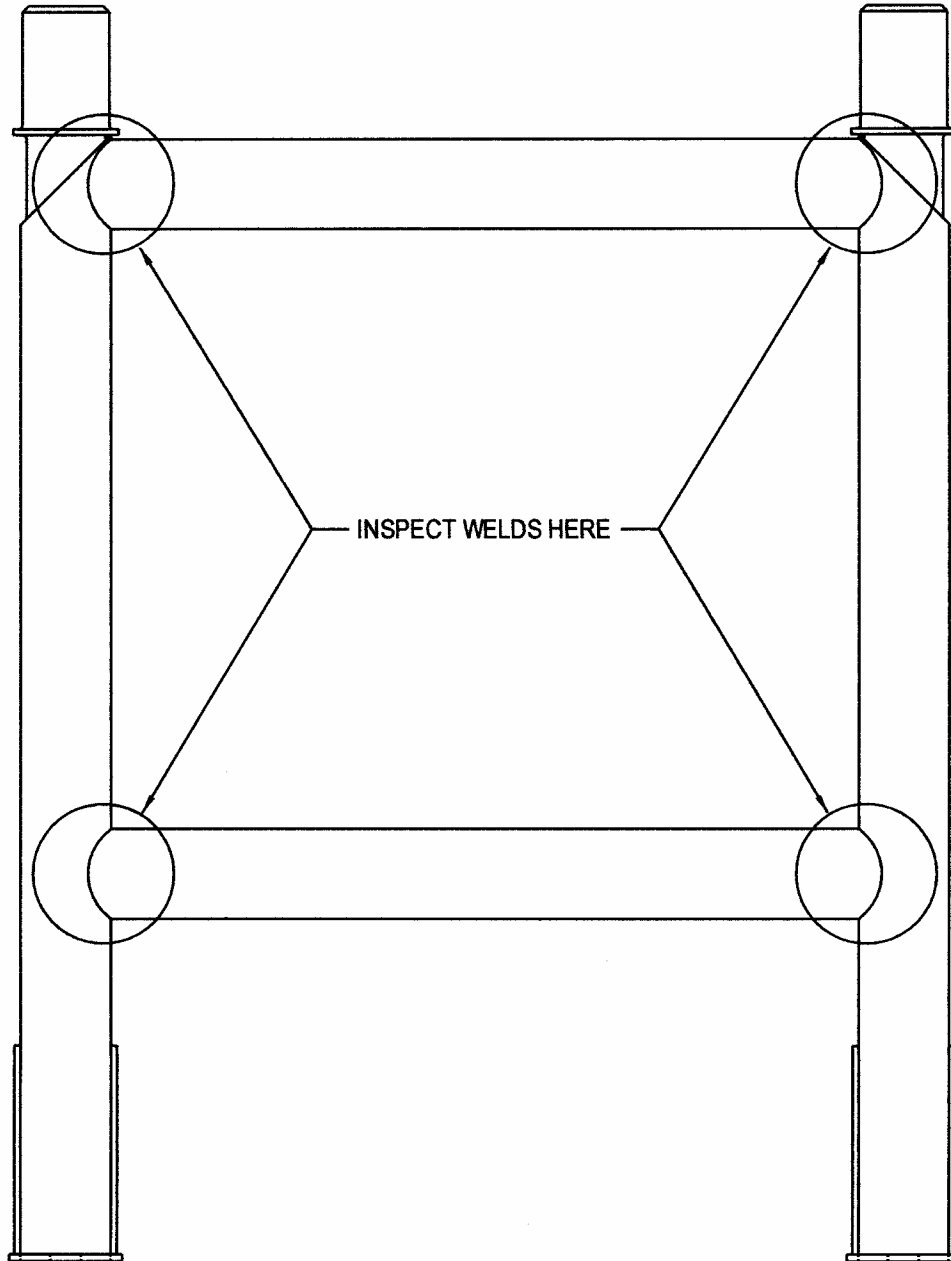

Figure 1. H-Strut
- D. Using a 5X or greater magnifying glass, inspect the H-Strut welds for cracks. Refer to Figure 1 for the weld locations.